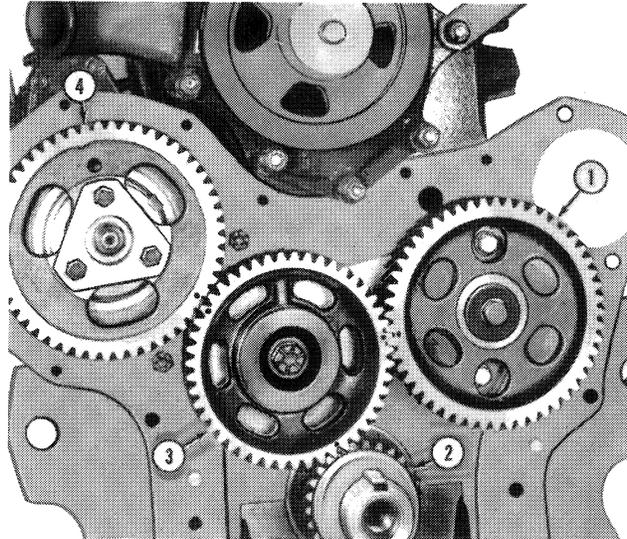
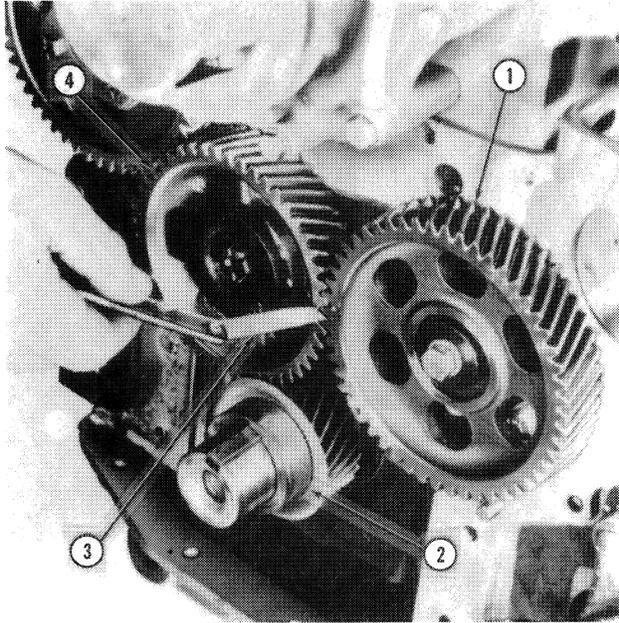

Figure 22
Figure 23
6. Before removing the timing gears, Figure 22, use a dial indicator or feeler gauges, to measure the backlash between each set of mating gears, Figure 23. Rotate the gears and check the backlash at four equidistant points on the gears. Install new gears if the backlash exceeds the specified limits see "Specifications" — Chapter 3.